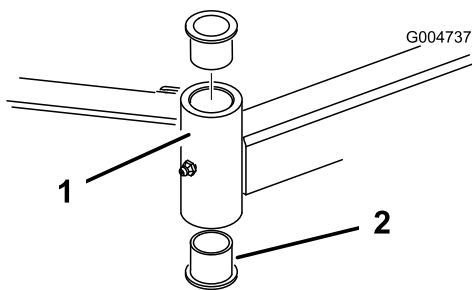

Figure 79
4. Insert a pin punch into the top or bottom of the mounting tube and drive the bushing out of the tube (Figure 79).